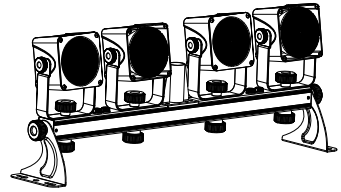

Fig.3
- Using a clamp on the two clamp hanging bolts (fig.3).